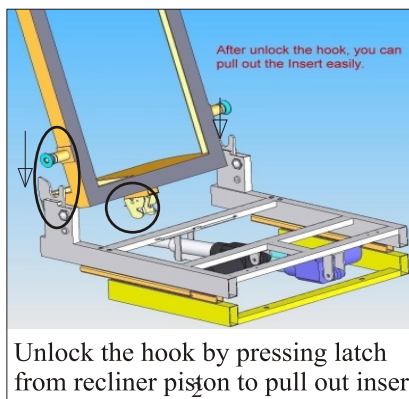

Fig.1
- \* On the lower portion of both side of the backrest, there are pivots (Fig.1)